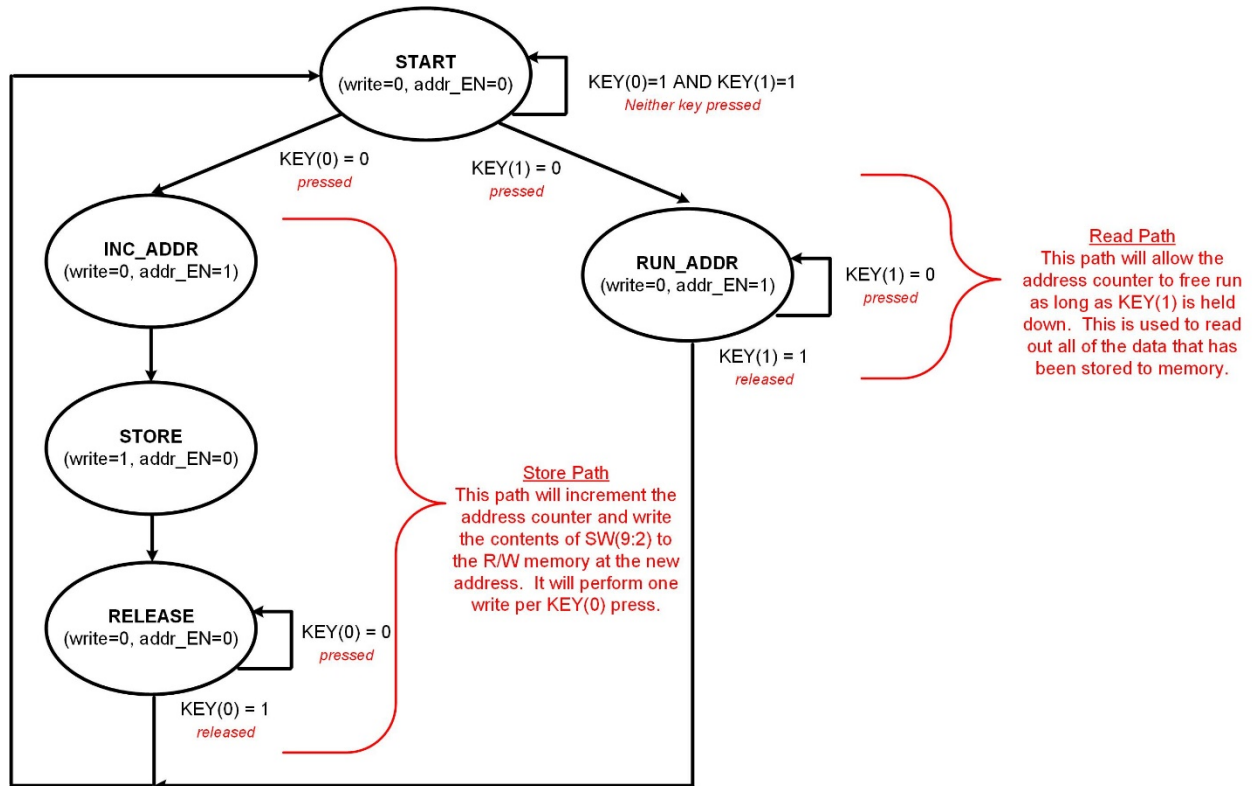

Figure 10.10
The R/W operation will be facilitated by a control FSM. The state diagram for the FSM is given in Figure 10.10. You will implement the FSM using the three process, behavioral modeling approach described in Chapter 8 of the textbook. The FSM will have two primary functions. The first is to handle storing the values of SW(9 downto 2) to the R/W memory. When KEY(0) is pressed, the FSM will increment the address counter by asserting *addr_EN* for one clock cycle. It will then assert *write* for one clock cycle. This will have the effect of storing the values on the switches to the *next* address in R/W memory. When running the clock at 1 kHz, you will not be able to press and release KEY(0) before the FSM returns to its START state and looks for another key press. This means that a single button press could result in hundreds of writes to memory. To avoid this behavior, the FSM will have a state that waits for KEY(0) to be released. In this way, each KEY(0) press only results in one write operation to R/W memory. This functionality is labeled the “Store Path” in Figure 10.10. Note that the push buttons are active LOW, meaning that when not pressed, they produce a logic 1 and when pressed they produced a logic 0.
The second function that the FSM will handle is reading out the contents of memory. When KEY(1) is pressed, the FSM will assert *addr_EN* for as long as the button is held down. In this way, the address counter will increment on every rising edge of clock. This will result in the R/W array outputting the contents of each address on the rising edge of clock. This functionality is labeled the “Read Path” in Figure 10.10.